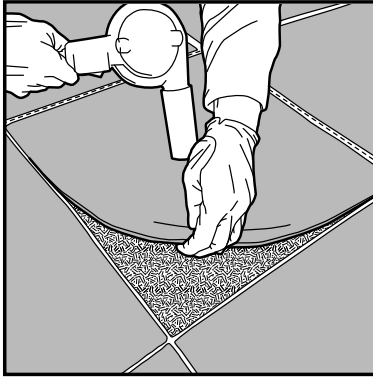

FIGURE 27 Use a heat gun to warm the tile and pry loose from the adhesive.
- Pry upward to release the tile from the adhesive. Continue lifting the tile as you heat it until it is completely removed (Fig. 27).